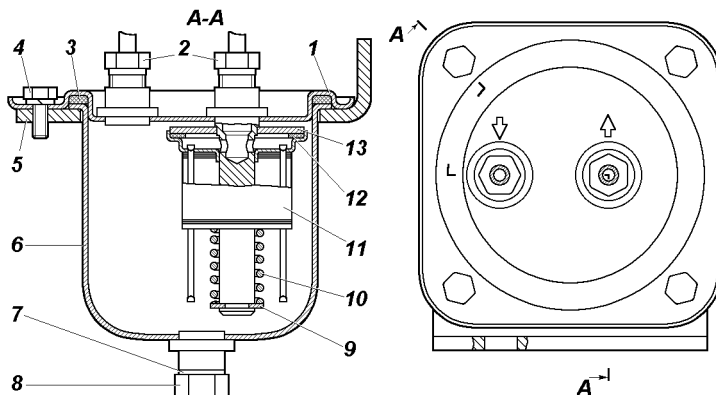

Fig. 25. Fuel filter-settler:
**Fuel filter-settler.** Periodically drain sediment and water through the drain hole stopped with a plug 8 (Fig. 25).